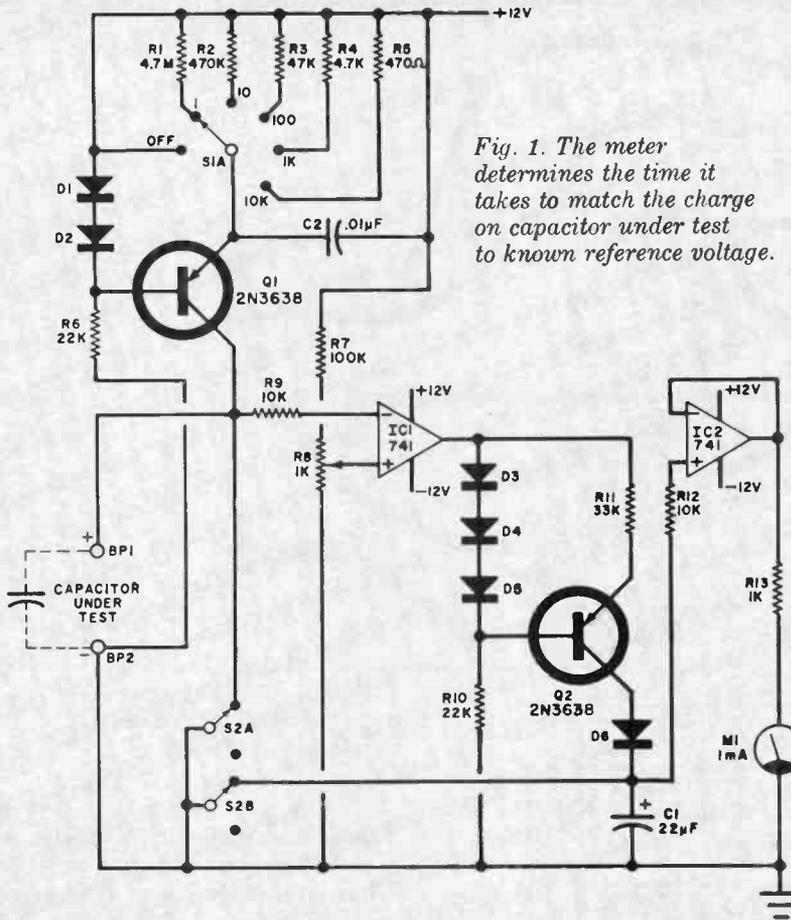

Fig. 1. The meter determines the time it takes to match the charge on capacitor under test to known reference voltage.
**How It Works.** As shown in Fig. 1, *D1, D2, R6, Q1* and one of the resistors (*R1* through *R5*) selected by *S1A* provide five decades of constant current. With *S2* in the position shown in Fig. 1, this current is shunted to ground via *S2A*. When *S2* is placed in its alternate position, the constant current will be pumped into the unknown capacitor connected across *BP1* and *BP2*, forcing it to charge in a linear fashion.